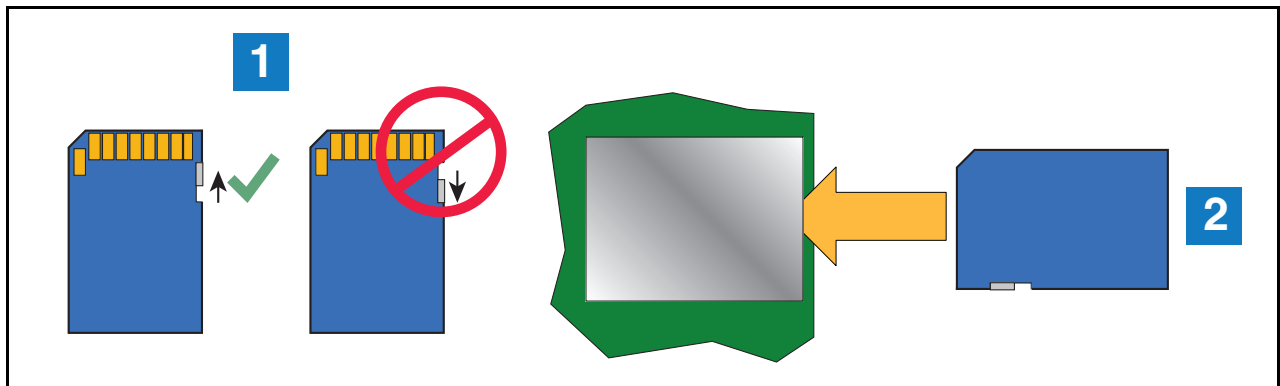

Figure 11. Installing SD Card
- Figure 11. Installing SD Card 8
14. Press the outer edge of the SD card towards the read of its enclosure and it should spring out so it can be removed. Remove the SD card from the old CPU board and check that the read/write-protect switch on the side of the card is in the position shown in (item 1 Figure 11). Insert the SD card into its enclosure on the new CPU board with the contact side facing the CPU board (item 2) and gently push the card into its enclosure until it clicks into the enclosure's latch.